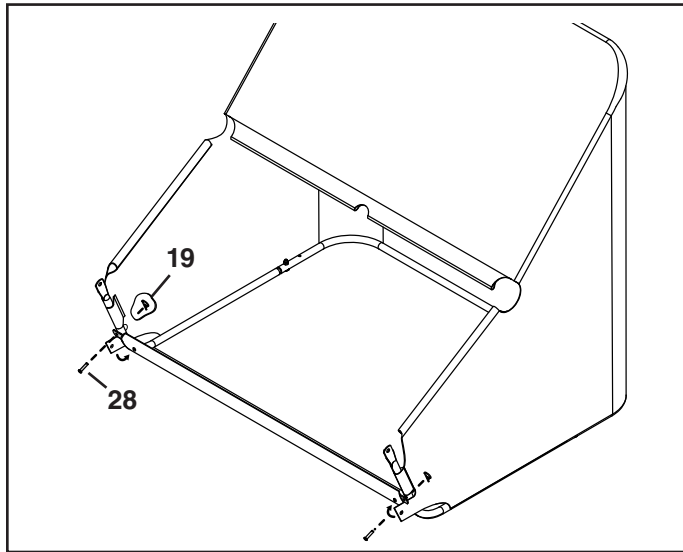

FIGURE 9
15. Slide the front flaps of the hopper bag up onto the front of the lower hopper tubes. Secure the bag frame tube to the lower hopper tubes using two clevis pins (28) and hair pins (19). See figure 9.